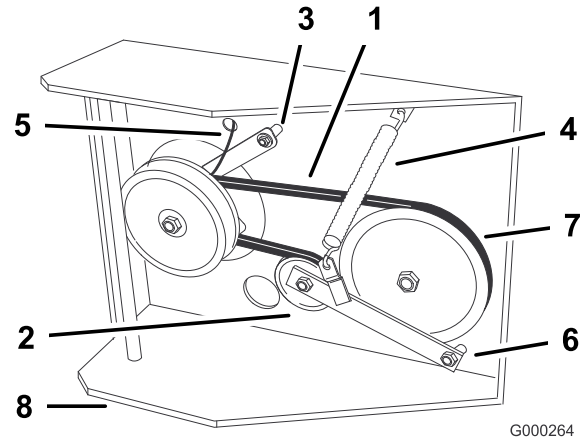

Figure 47
6. Disconnect clutch retainer from the engine deck (Figure 47).
7. Unhook tension spring from side of frame (Figure 47).
10. Torque pivot bolt to 35-40 ft-lb (47-54 N·m). Install tension spring between idler arm and frame bracket (Figure 47).
11. Install clutch retainer to the engine deck (Figure 47).